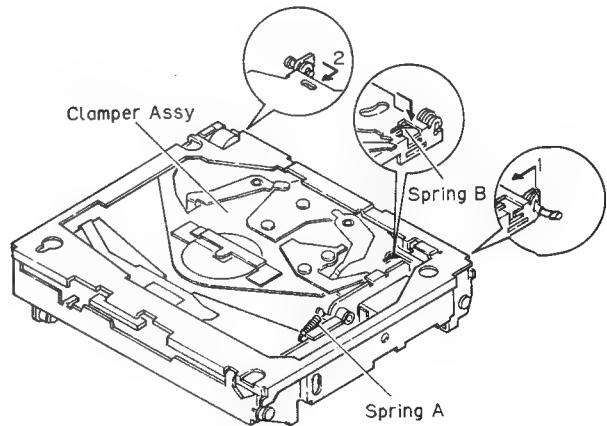

Fig.9
1. Remove the spring B as indicated by the arrow.(Fig.9)
2. Remove the spring A.(Fig.9)
3. Remove the engagement as indicated by the arrows 1 and 2, and then remove the clamper assy.(Fig.9)